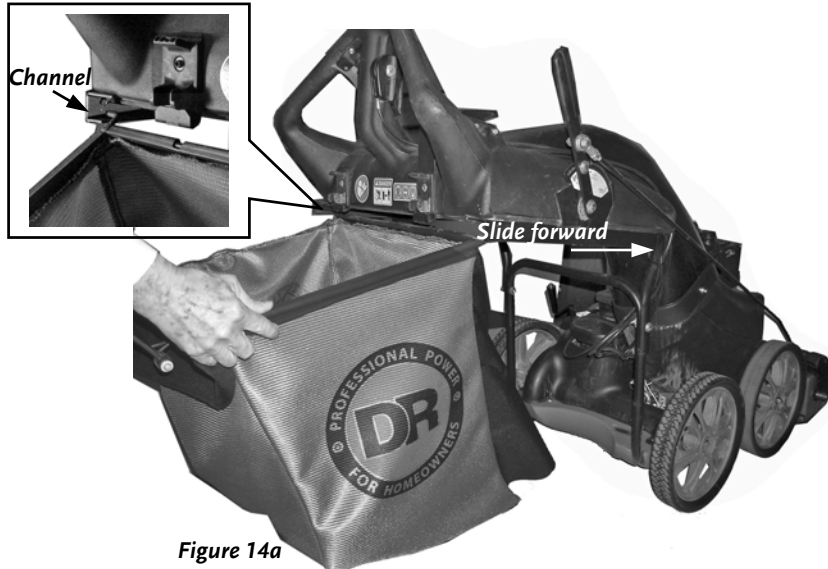

Figure 14a
1. Place the Left and Right ends of the Debris Bag frame into the Left and Right Channels in the Top Shield Assembly (**Figure 14a**).
2. Slide the Debris Bag all the way forward in the Top Shield Assembly channels (**Figure 14a**).